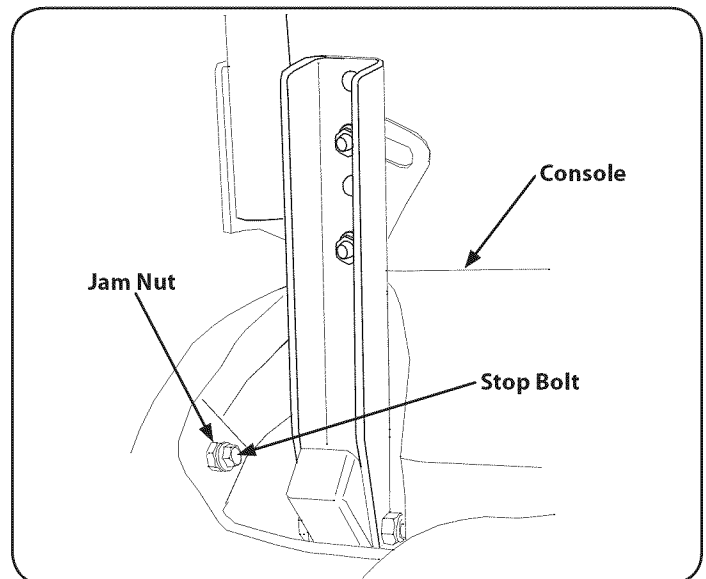

Figure 42
8. Locate the applicable stop bolt on the left or right console. See Figure 42.